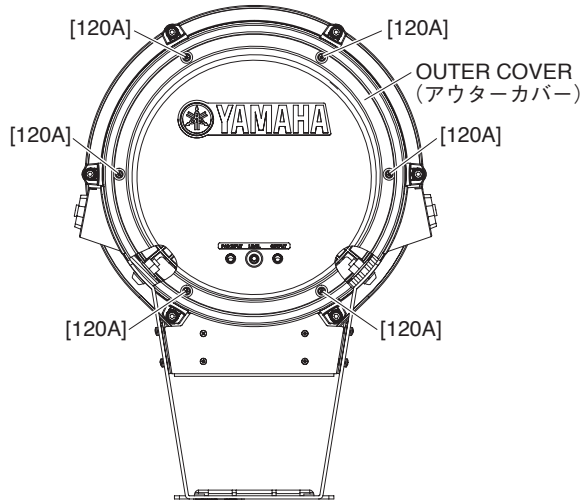

Fig. 1 (図 1)
- 1-1 Remove the six (6) screws marked [120A]. The outer cover can then be removed. (Fig. 1)
- 1-2 Remove the two (2) hexagon nuts marked [A]. The JK circuit board can then be removed. (Photo 1)
- 1-1 [120A] のネジ 6 本を外して、アウターカバーを外します。(図 1)